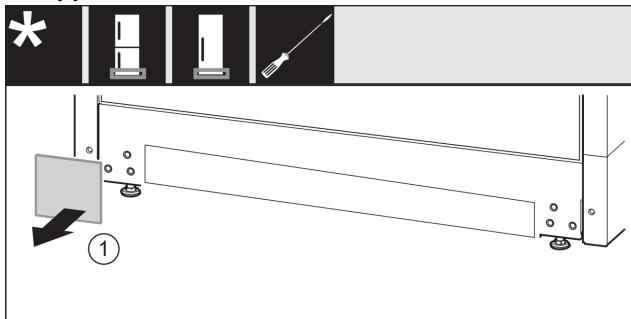

Fig. 17
- Remove the cover Fig. 17 (1).